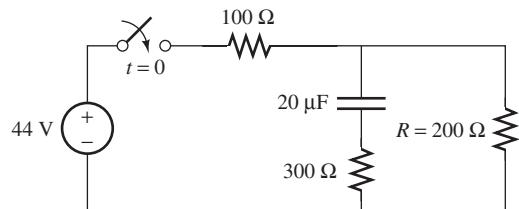

FIGURE P5.33 Circuit for Problem 5.33.
- 5.33 (B)** Consider the circuit in Figure P5.33. The switch closes at $t = 0$. Determine $i_C(0^+)$, and the current flow across the resistor R at both $t = 0$ and $t = \infty$.